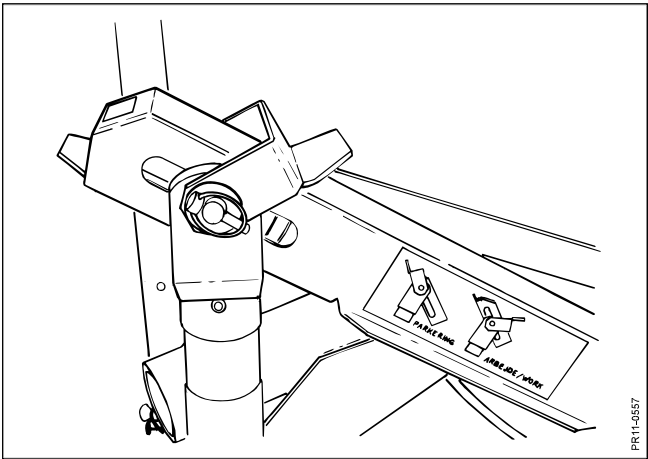

Fig. 3-12
- Fig. 3-12:** Activate the parking lock: